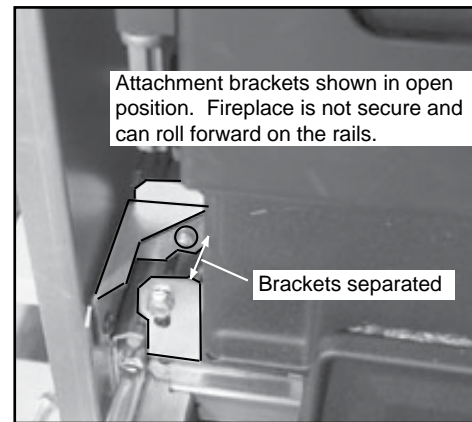

Figure 15.4
5. Slide the fireplace back into the outer can. Re-attach the bolts ensuring that the attachment brackets are securely fastened. This will prevent the fireplace from unexpectedly sliding out on the rail system. **Figures 15.4 and 15.5.**